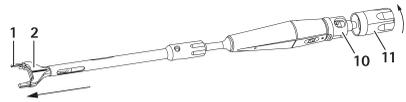

Fig. 5 Disassembling insertion instruments
- ▶ Turn twist cap **21** clockwise until it can be removed, see Fig. 5.